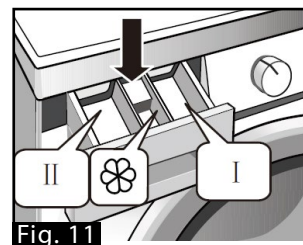

Fig. 11
- The detergent drawer is separated into 3 compartments (Fig. 11):